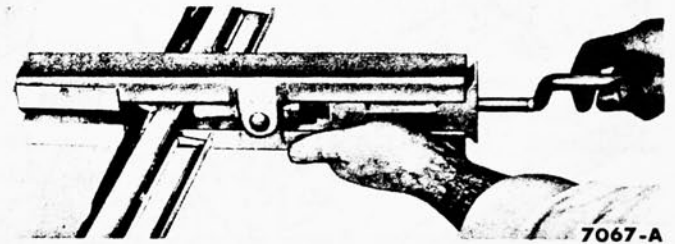
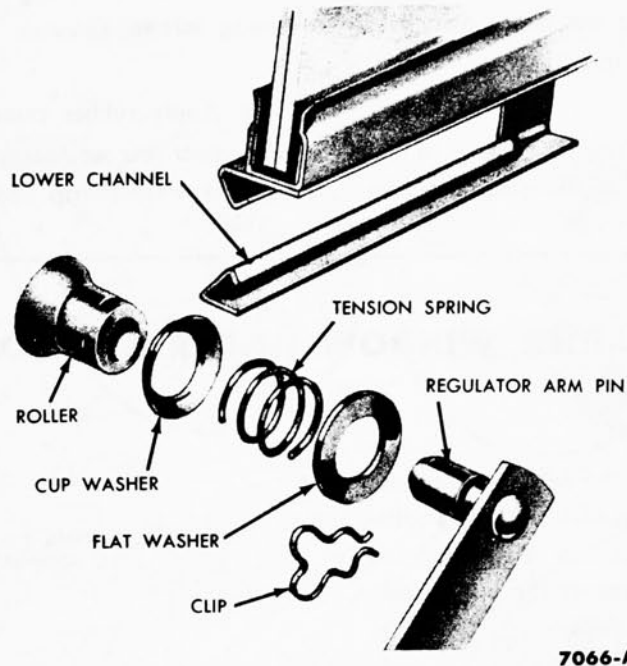

FIG. 5—Remove or Install Glass Channel
FIG. 7—Glass Channel Roller Assembly
2. Disconnect the regulator arms from the glass channel roller assembly by pulling the roller clip out far enough to release the regulator arm pin (Fig. 7). By doing this, the roller assembly will remain intact and will not have to be reassembled.
5. Remove the glass frame, the glass channel (Fig. 5), and the glass tape.
6. Install the glass channel on the glass (Fig. 5), using new glass tape. Trim the excess tape. Install the glass frame and the glass channel roller assembly (Fig. 7) if it was removed.
3. Disconnect the window regulator arms at the roller assemblies (Fig. 7). Pull the hairpin clip from the roller assembly just far enough to release the regulator arm pin. By doing this, the roller assembly will remain intact and will not have to be reassembled.
a. Remove the glass from the glass channel and frame assembly (Fig. 5).